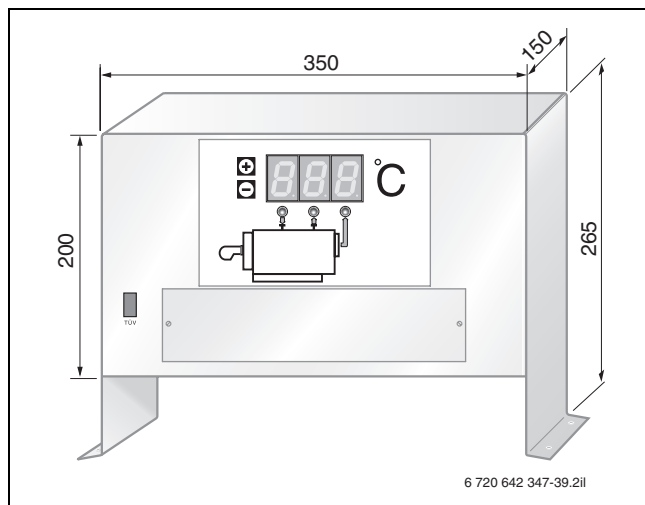

Fig. 45 DA... display and control units
- 2 DA... display and control unit (→ Fig. 45, page 68)